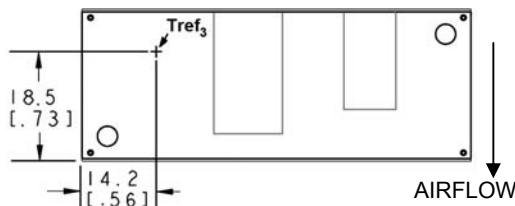

Figure 14. T_{ref} Temperature Measurement Location for Module with Heatplate.
The thermal reference point, T_{ref3} used in the specifications for modules with heatplate is shown in Figure 14. For reliable operation this temperature should not exceed 105°C .